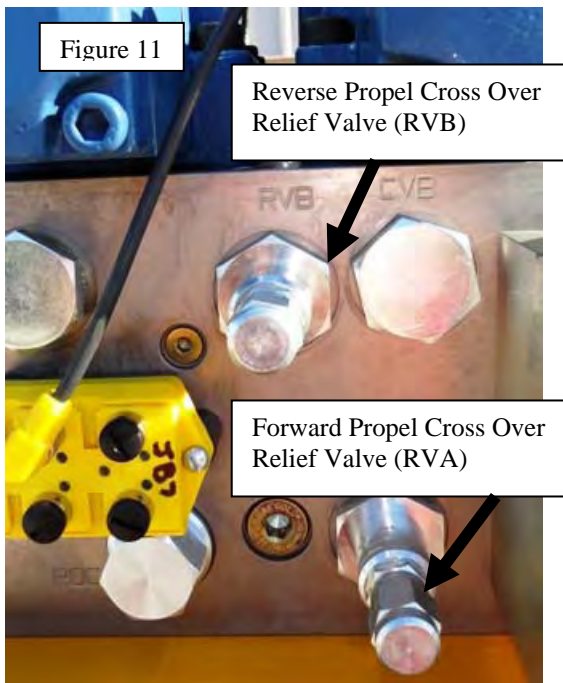

Figure 11
Propel Cross Over Relief Valves are located on the right side behind the cab on the propel manifold assembly (Figure 11).
Turn both (RVA & RVB) crossover relief valve adjustments screws to full clockwise (CW) position (maximum pressure) (Figure 11).
- Remove protective cover, loosen the locknut on RVA cross over relief valve (Figure 11).
- Remove protective cover; loosen the locknut on RVB cross over relief valve (Figure 11).